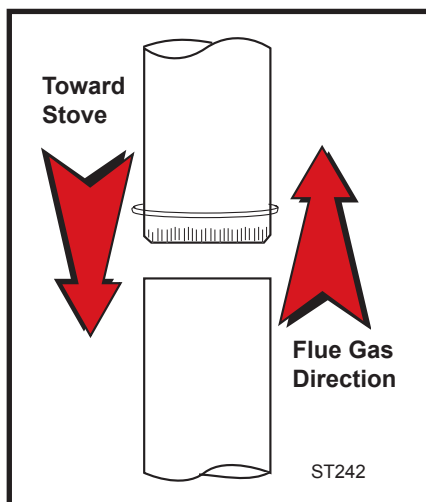

Fig. 4 Crimped sections always point toward the stove so that any liquid condensation will not leak out.
1. Insert the crimped end of the first section into the stove's flue collar, and keep each crimped end pointing toward the stove (Fig. 4). Using the holes in the flue collar as guides, drill 1/8" (3